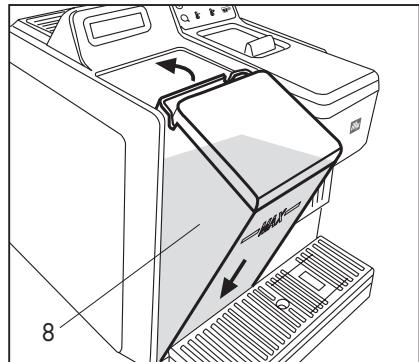

Fig. 3
- To replace the tank, tilt it slightly and rest it on the water valve. Press the top lightly and push it into the compartment until it clicks. (**Fig.3**)